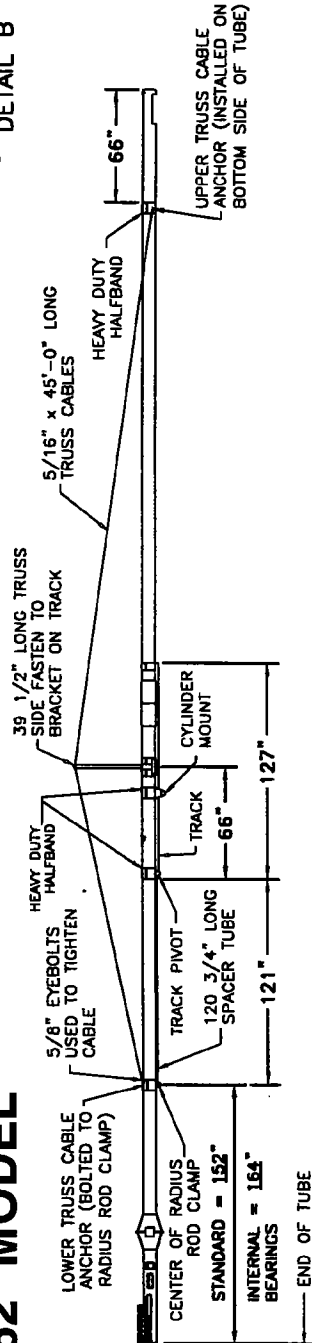

FIG. 40
See Fig. 40 on page 34 for location of track, truss and undercarriage components.
Step 8. On 52' models fasten the undercarriage rest plates to the tube with a 4" wide halfband and four 3/8" x 1 1/2" (grade 5) hex head capscrews and nylon locknuts. See Fig. 40 on page 34 for location.
See Fig. 40 on page 34 cable lengths, truss mounts and cable anchor locations.